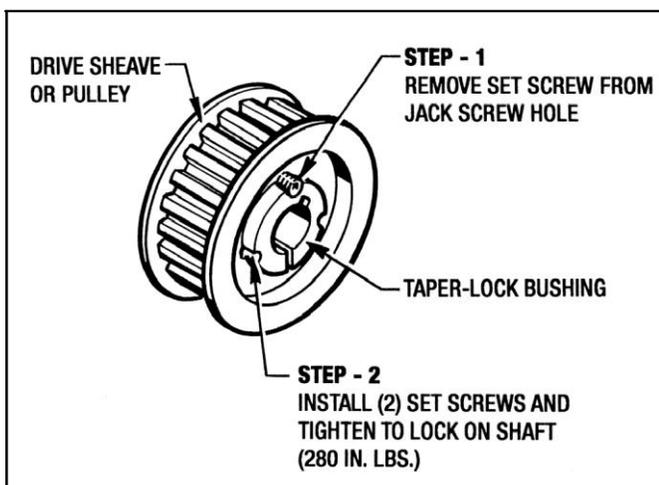

Figure 9.13 - Installation of Drive Pulley
6. Lower the Drive Motor into place and attach with (4) motor mounting bolts.
7. Install Drive Pulleys and Drive Belt as per Manufacturer's Specifications. (See Figure 9.13 for Drive Pulley Installation)